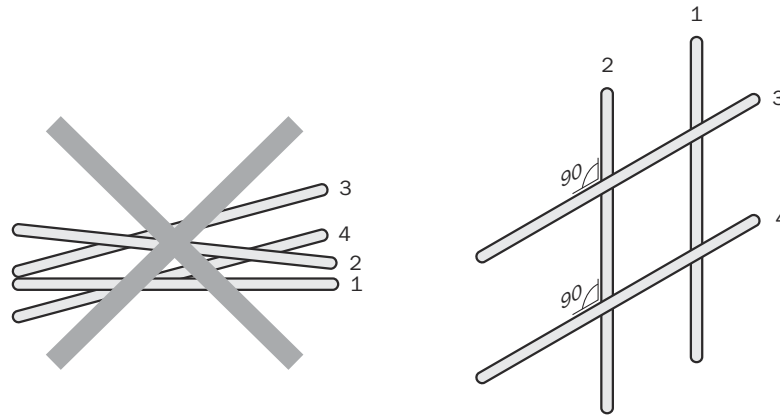

Figure 6: Cross cables at right angles
- ▶ Cables in groups 1, 2 and 3, 4 must be crossed at right angles, see figure 6.